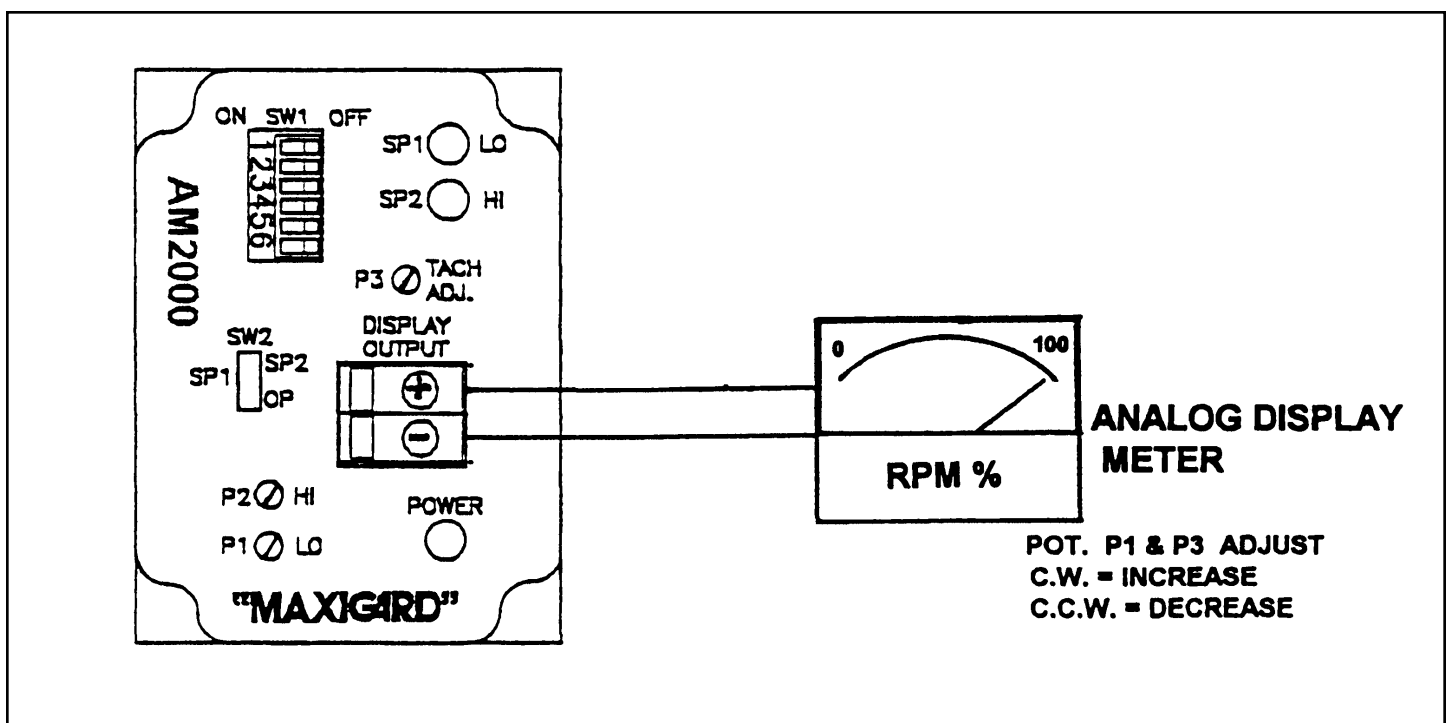

Figure 10
(see figure 10, page 11)
- 11.4** To calibrate the low set point place slide switch SW2 in the low set point position (SP1). Adjust potentiometer P1 until you reach the desired set point on the display meter (CW to increase/CCW to decrease). The machine does not need to be running to make this adjustment. The red LED SP1 will be on when the operating speed is higher than the set point speed. This indicates that the relay is energized. (see figure 10, page 11)